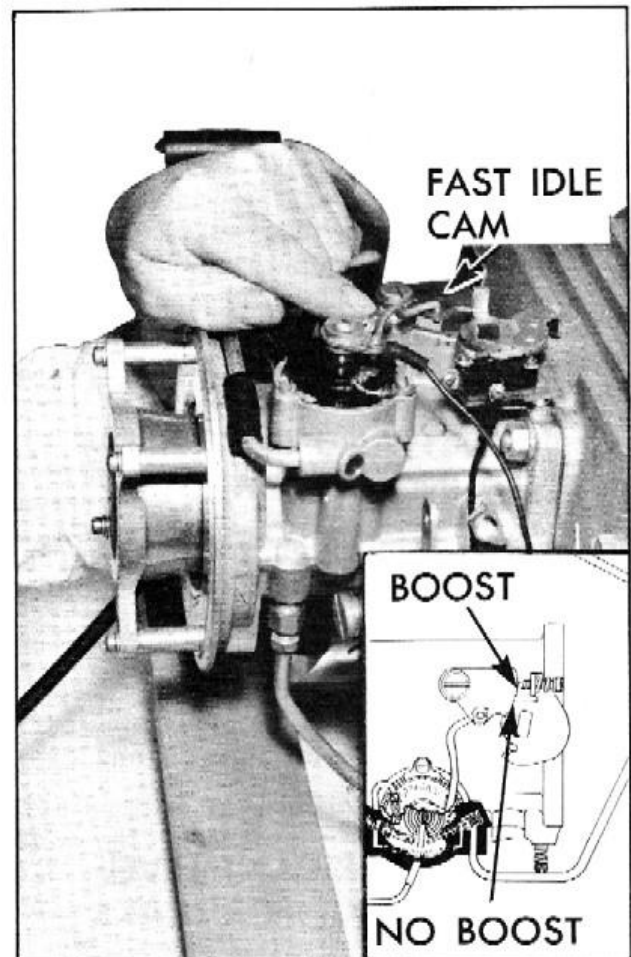

Fig. 28 Cold Enrichment Rod Adjustment
3. Hold the cold enrichment trip lever against the counterweight tab as illustrated in Fig. 28. Blow into the hose and listen for slight air flow in the air meter. If the rod is the correct length, slight air flow will be heard.